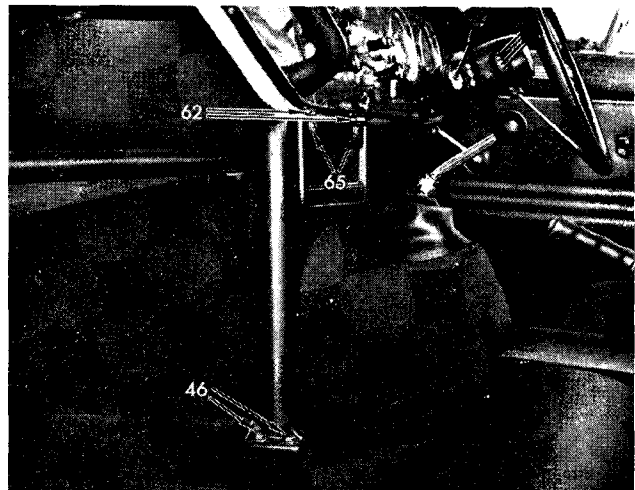

Fig. 33. Facia support bracket
To Remove (Fig. 33)
2. Remove two screws (62) (Fig. 33).